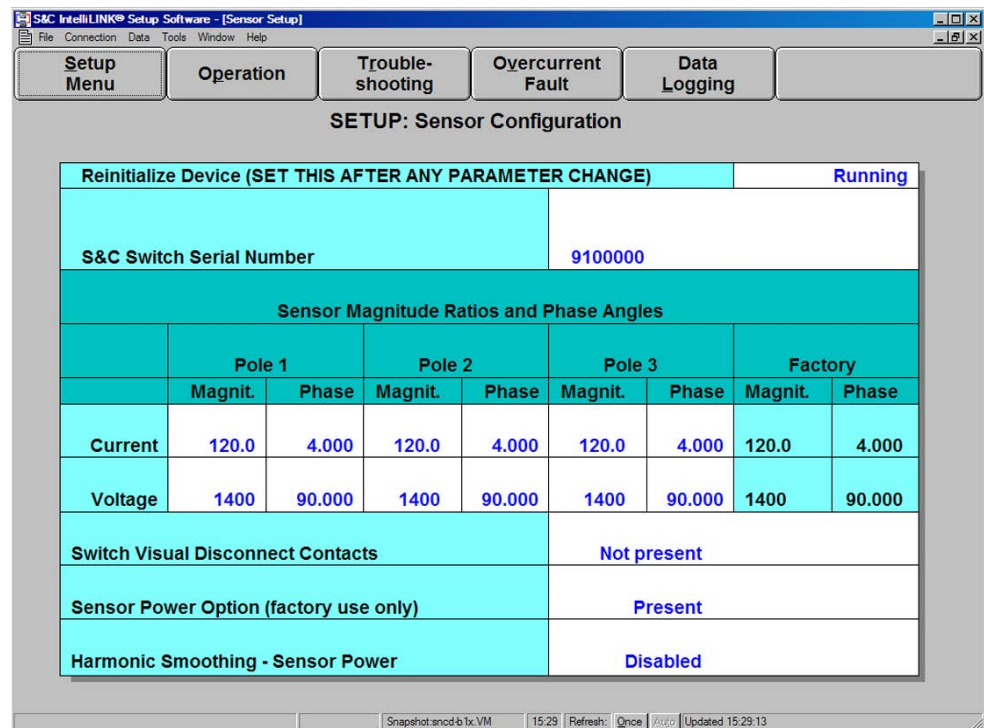

Figure 6. The *Setup>Sensor Configuration* screen for a 5801 control.
STEP 4. At the *Setup Menu* screen, click on the **Sensor Configuration** button to display the *Setup>Sensor Configuration* screen. See Figure 6. Enter the correct values for this switch control.